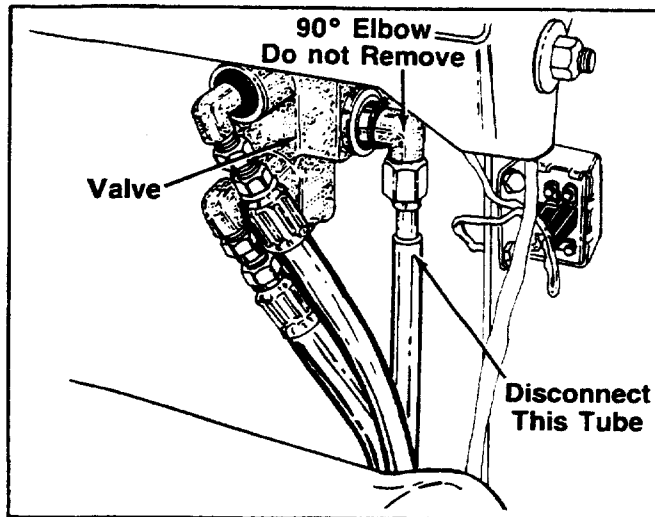

FIGURE 20.
12. Remove the tube assembly from the right hand side of pump (marked "Out" port), then disconnect the other end of tube at left hand side of valve. **Do not remove 90° elbow.** See figure 20.